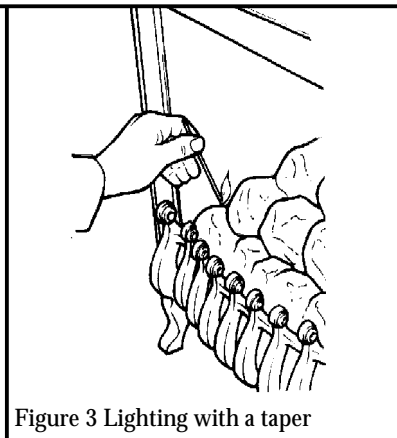

Figure 3 Lighting with a taper
- If the spark ignition fails, the fire can be lit manually by inserting a lighted taper alongside the left side wall inside the fire box (as shown in figure 3) and depressing the control knob at the “PILOT/IGN” position.